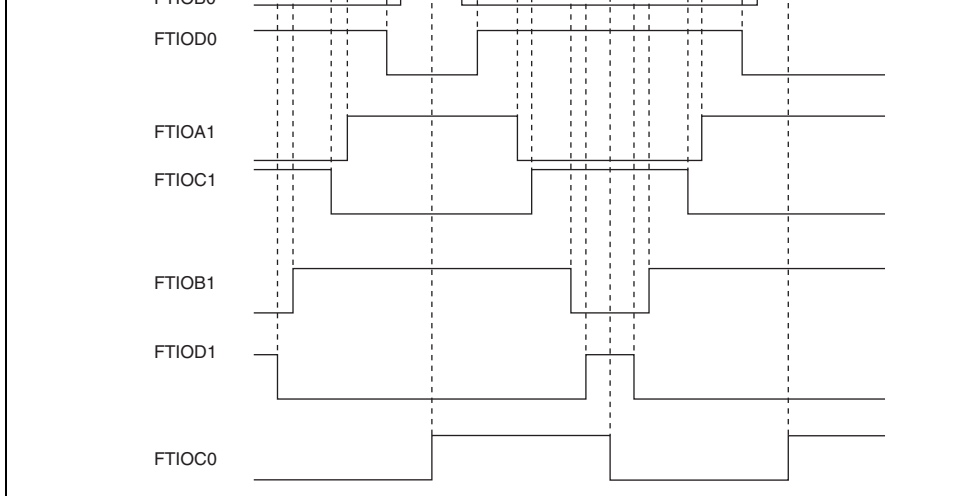

Figure 13.31 Example of Complementary PWM Mode Operation (1)
2. Examples of Complementary PWM Mode Operation: Figure 13.31 shows an example of complementary PWM mode operation. In complementary PWM mode, TCNT_0 and TCNT_1 perform an increment or decrement operation. When TCNT_0 and GRA_0 are compared and their contents match, the counter is decremented, and when TCNT_1 underflows, the counter is incremented. In GRA_0, GRA_1, and GRB_1, compare match is carried out in the sequence TCNT_0 → TCNT_1 → TCNT_1 → TCNT_0 and PWM waveform is output, during one cycle of a up/down counter. In this mode, the initial setting will be TCNT_0 > TCNT_1.